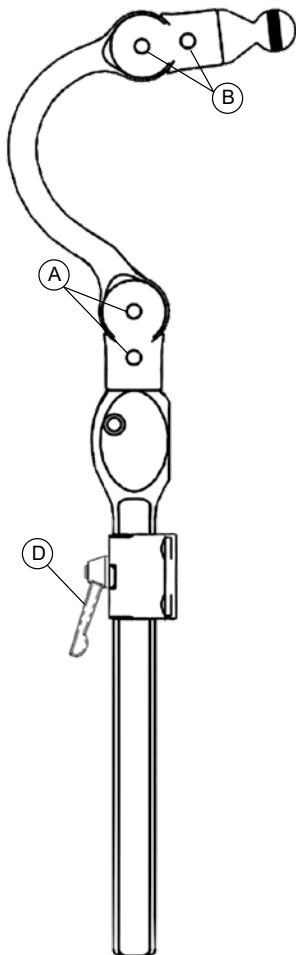

Fig. 1
1. Vertical - Loosen the lever knob (Fig. 1, D) and adjust to the proper height and then lower the stop collar (Fig. 2, C). Vertical rod may be rotated for additional angle adjustment of pad/base plate assembly.
2. Depth and Angle Adjustment - Loosen adjustment screws (Fig. 1, A & B) for depth and angle adjustment. Note angle adjustment shown in Fig.3.